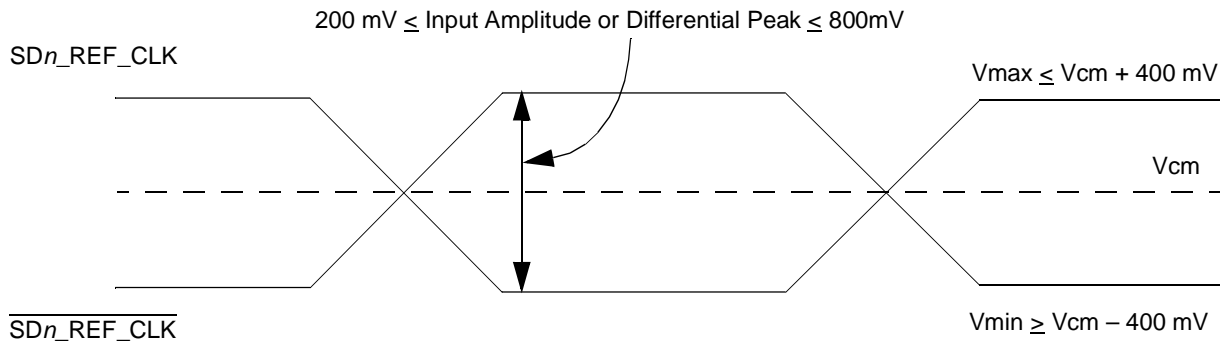

Figure 48. Differential Reference Clock Input DC Requirements (External AC-Coupled)
- For **external AC-coupled** connection, there is no common mode voltage requirement for the clock driver. Since the external AC-coupling capacitor blocks the DC level, the clock driver and the SerDes reference clock receiver operate in different command mode voltages. The SerDes reference clock receiver in this connection scheme has its common mode voltage set to SGND\_SRDS. Each signal wire of the differential inputs is allowed to swing below and above the command mode voltage (SGND\_SRDS). Figure 48 shows the SerDes reference clock input requirement for AC-coupled connection scheme.